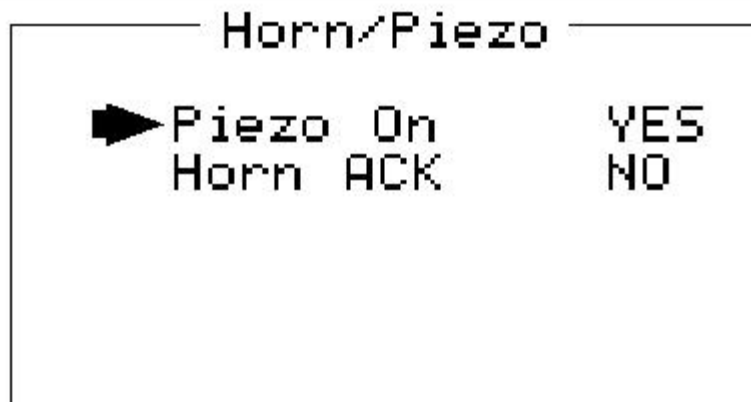

Figure 3-11 – Horn/Piezo Screen
- The TXP-C20 display PCB is equipped with a small audible piezo that chirps when keys are pressed providing an audible feedback to the operator. It also may be set to audibly indicate alarm conditions by entering YES into the **Piezo On** menu item in Figure 3-11. This piezo will then mimic the **Horn** settings menus described in section 3.3.1.